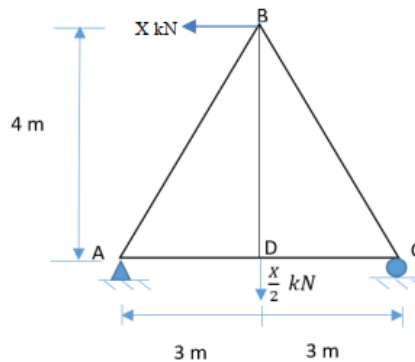

Figure-2
3. Solve the following 2D truss (Figure-2) using LU factorization. Find the values of F_{AB} , F_{BC} , F_{CD} , F_{DA} , F_{BD} , A_y , A_x and C_y . Mention if the member forces are in tension or compression. Report all the values in a neat tabular format. 10